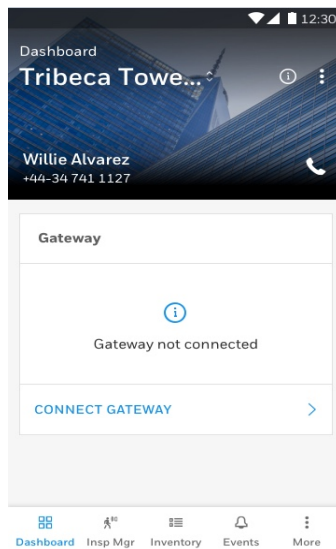

Figure 5-2: Building Details Page
- To commission the gateway, tap on **CONNECT GATEWAY** and follow the on-screen instructions (see Figure 5-2: Building Details Page .)